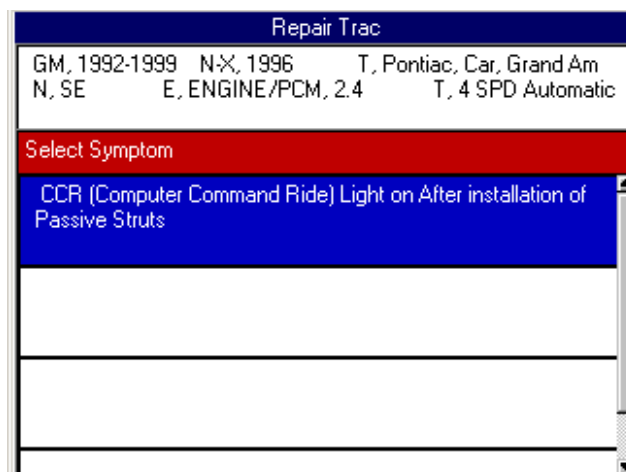

Figure 7.2: Repair Trac Symptoms Screen
- 2 From the Pathfinder screen, select **Repair Trac** and press the **ENTER** key. This displays the Repair Trac screen for the vehicle (see figure 7.2).